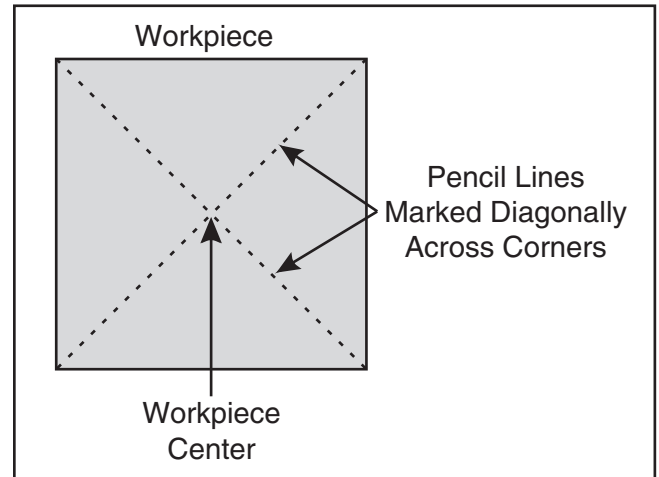

Figure 40. Workpiece marked diagonally from corner to corner to determine the center.
1. Find the center point of both ends of your workpiece by drawing diagonal lines from corner to corner across the end of the workpiece (see **Figure 40**).